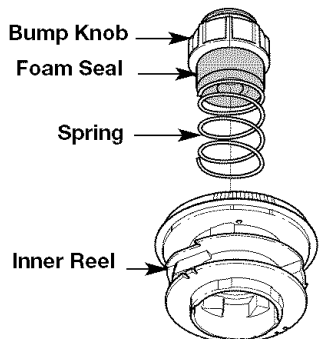

Fig. 22
- Hold the inner reel in place and install the bump knob, spring and foam seal (Fig. 22). Press down and turn the bump knob clockwise. Grasp the ends and pull firmly to release the line from the holding slots in the inner reel.
- Pull out the bump knob, spring and foam seal (Fig. 22).
- Place the bump knob, spring and foam seal into the inner reel (Fig. 22).